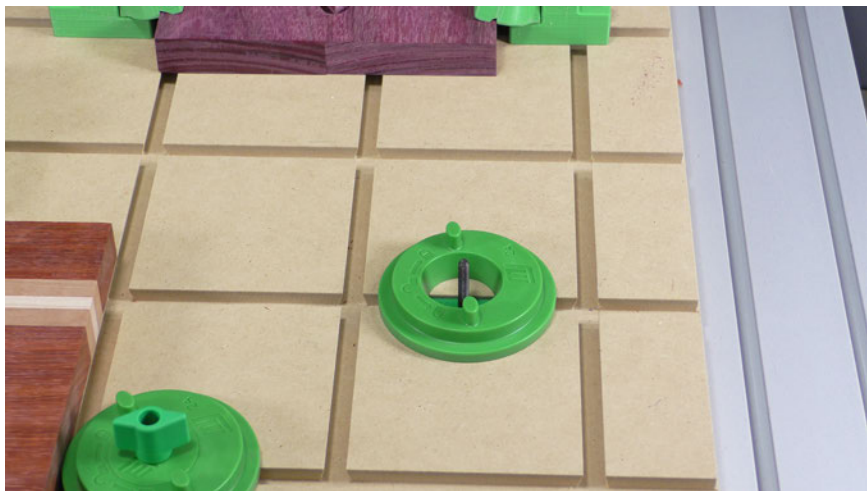

Fig 3b - Ring setup 1
- 3.5.** Slide one of the 1” Track Screws into a dovetail groove where you want to set the clamp. (Fig 3b)